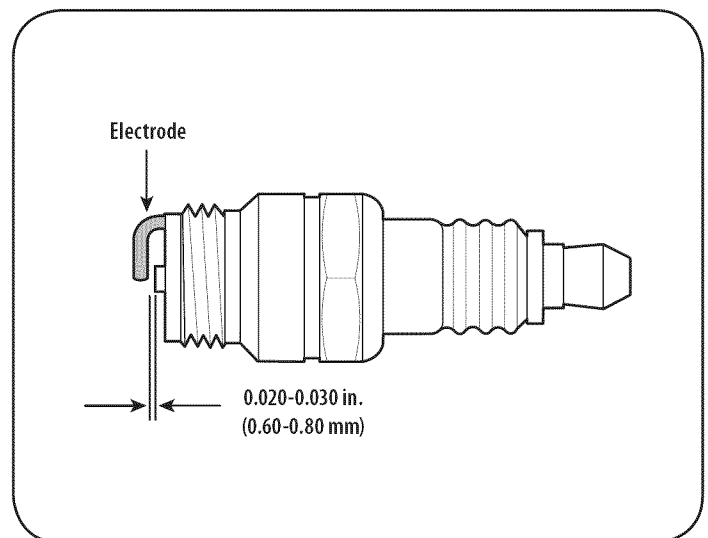

Figure 22
3. Measure the plug gap with a feeler gauge. Correct as necessary by bending side electrode. See Figure 22. The gap should be set to 0.020-0.030 inches (0.60-0.80 mm).